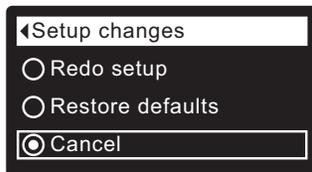

FIG. 30
1. From any of the rolling status screens, press the SELECT (O) button to display the **Main menu**.
3. Press the SELECT (O) button to display the Advanced settings menu.
5. Press the SELECT (O) button to display the Troubleshooting menu.
7. Press the SELECT (O) button to display the Setup changes menu (See Figure 30).
8. Press the RIGHT (▶) button. The flashing padlock icon will disappear, as shown in Figure 30.
9. Press the SELECT (O) button.